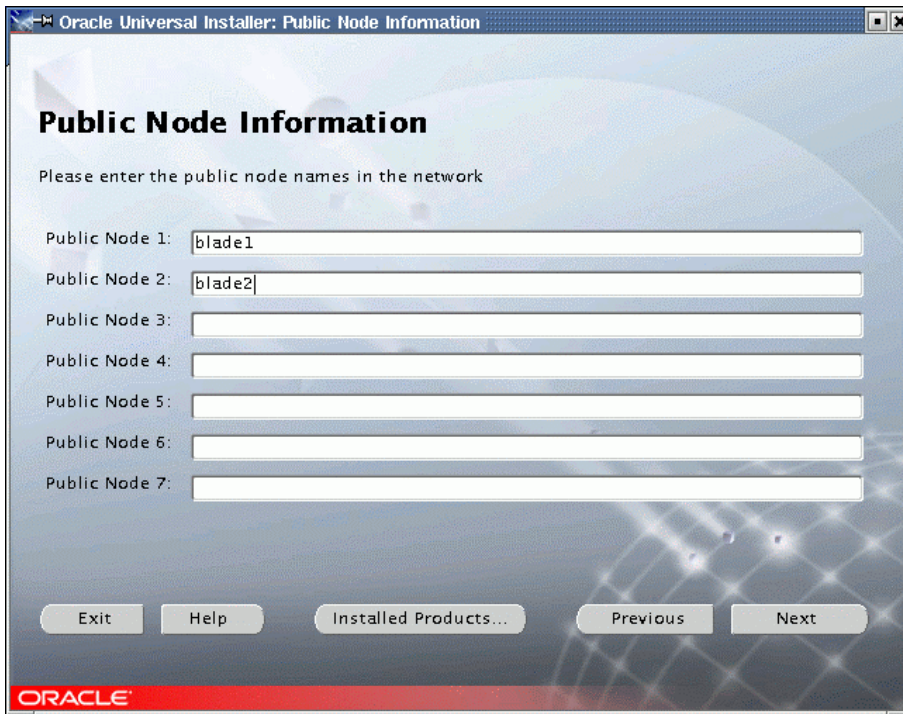

Figure 33. Public Node Information
8. The Public Node Information window lets you specify the node names. In our case, the two HS20 nodes are named blade1 and blade2 (Figure 33). Enter the information as shown and click **Next**.